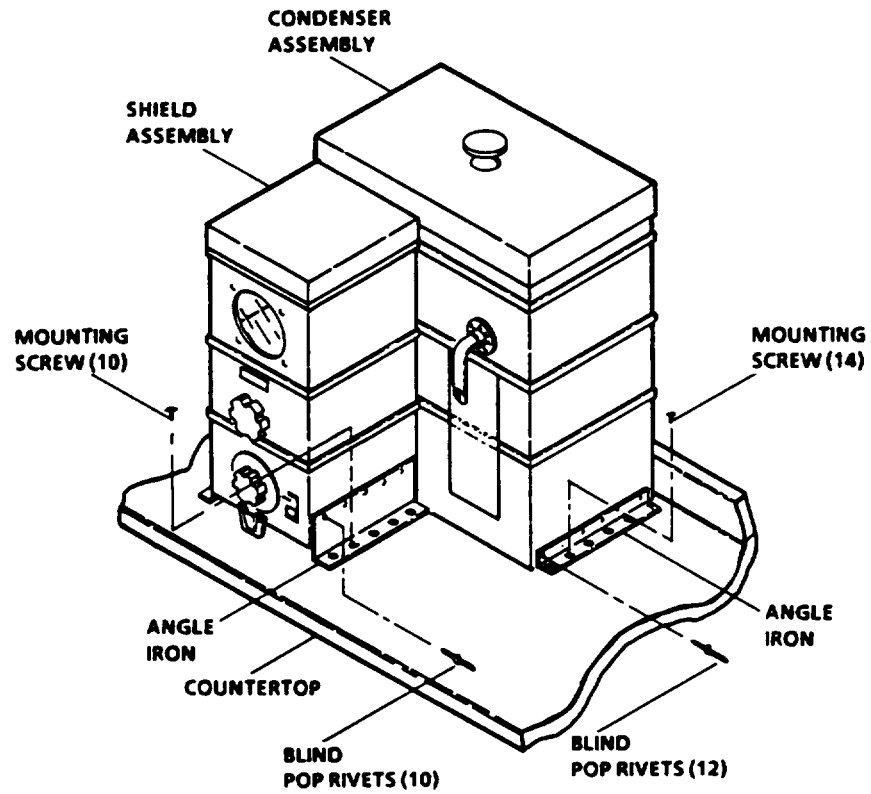

Figure 4-27. Distillation Unit
1. Install condenser assembly. See figure 4-27.
2. Install shield assembly. See figure 4-27.